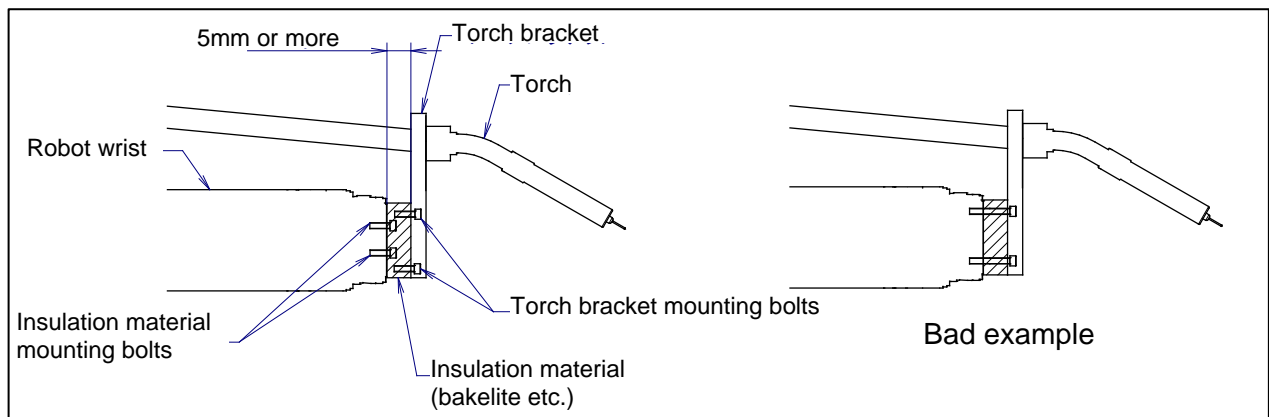

Fig.C.1 (a) Insulation at the wrist
- Insulate the end effector mounting surface. Insulation material which is inserted between the end effector mounting surface and the welding torch bracket must be different, and bolt them separately referring to Fig. C.1 (a).